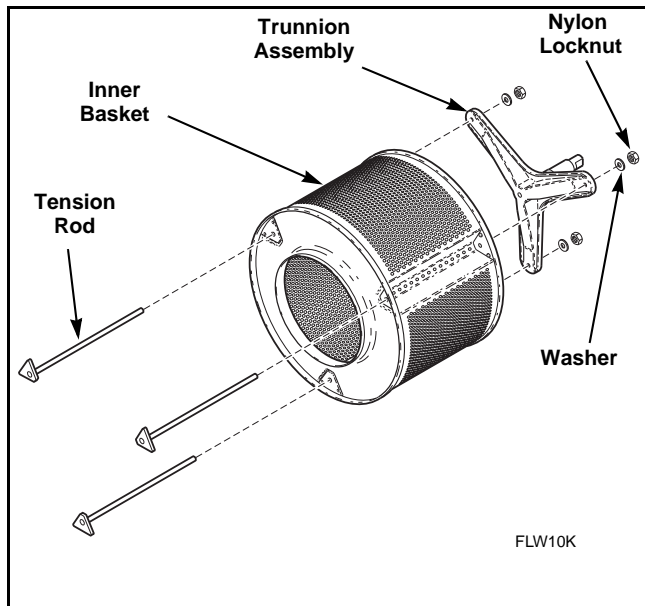
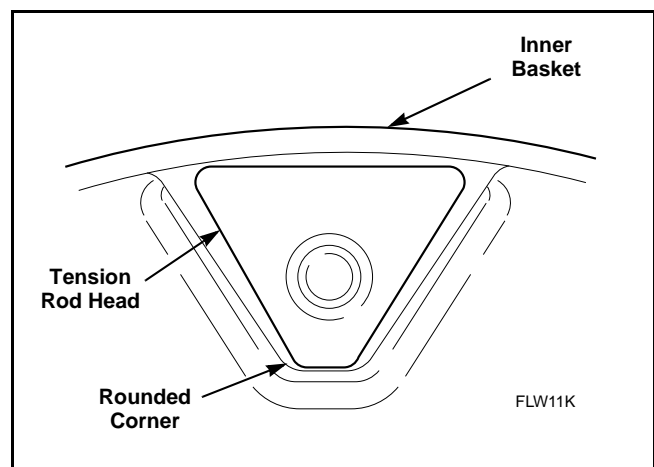

Figure 40
Figure 41
- a. Remove nuts, washers and tension rods holding trunnion to inner basket. Refer to *Figure 40*.
- d. Insert tension rods into inner basket. Refer to *Figure 40*. Position each rod so the rounded corner of triangular head faces the center of inner basket. Refer to *Figure 41*.